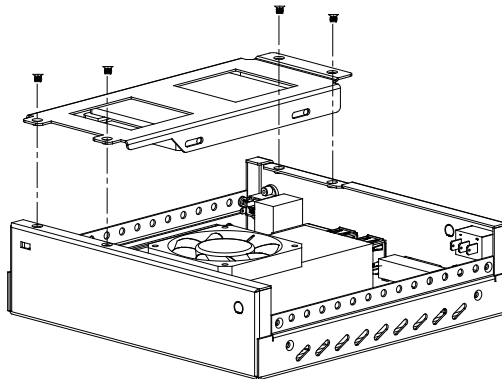

Figure 2- Removal of HDD
1.3 –Unscrew 4 flat head screw and lift out HDD assembly (Figure 2).